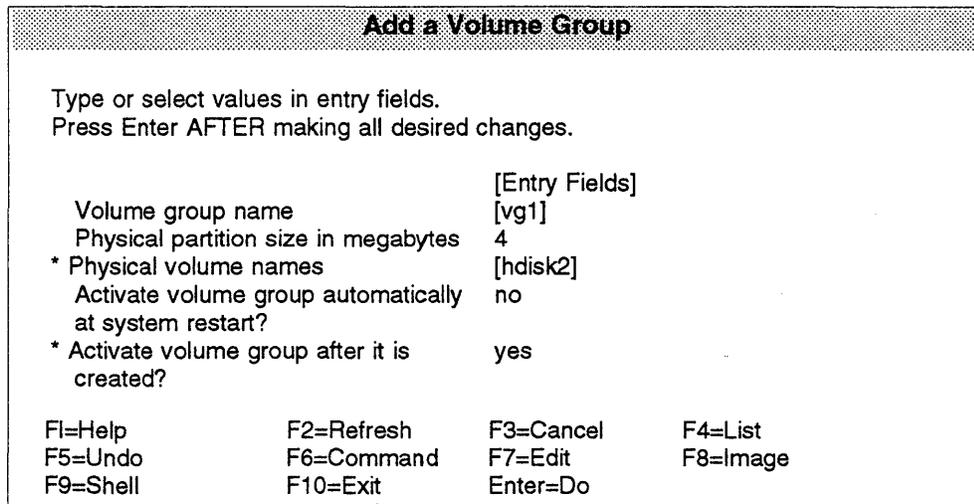

Figure 4-11: Add a Volume Group, Menu 1
- 4 Select "Add a Volume Group," and the menu will appear as shown in Figure 4-11.